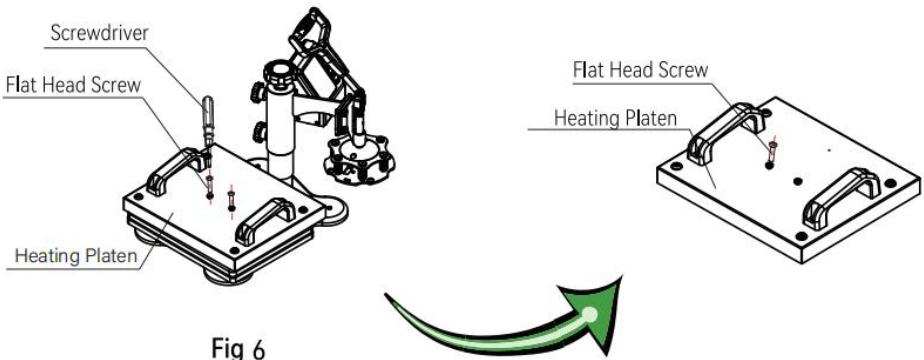

Fig 6
5. Place the pressure platen flat on the heating platen, align it with the hole. Take 4 fat head screws and tighten them with a screwdriver. Take 2 cup head screws and lock them to the hole in the middle of the pressure platen. At this time, do not lock the cup head screws: reserve 5-7mm for the next installation step (as shown in figure6).